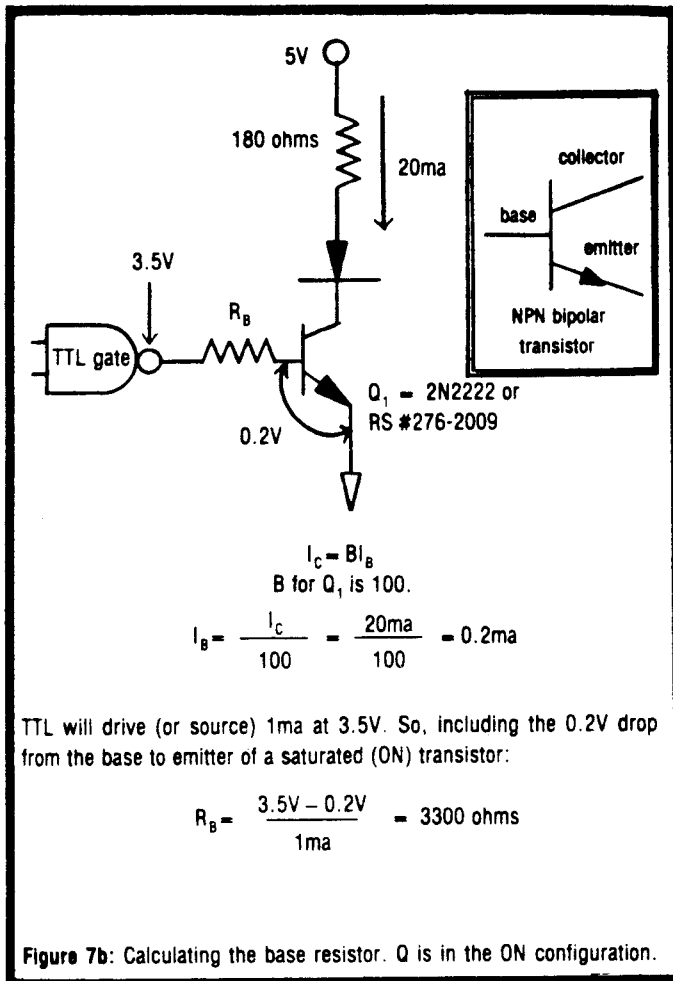

Figure 7b: Calculating the base resistor. Q is in the ON configuration.
0.2 ma of base current. Normal TTL can actually source a few ma with its output at 3.5v and even LSTTL can source a few tenths of an ma. If we pick the base resistor to be 3.3K ohms calculated as shown in Figure 7b, then the gate can well source the 0.5 ma of current when brought high. We only needed 0.2 ma, we've supplied 0.5 ma, so that transistor is really turned on hard. That's all there is to it.